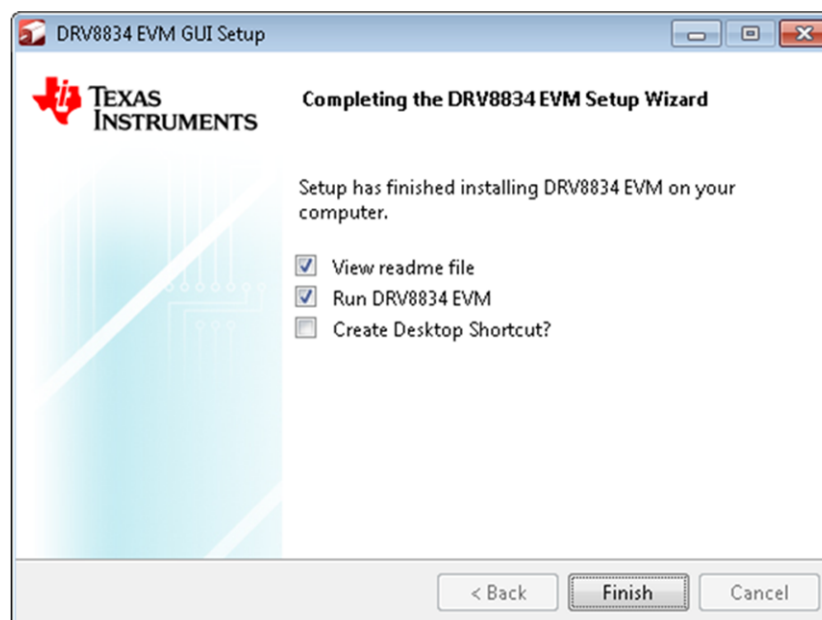

Figure 18. Installation Complete
19. Figure 18 appears denoting the completion of DRV8834 EVM GUI Installation. Click **Finish**.